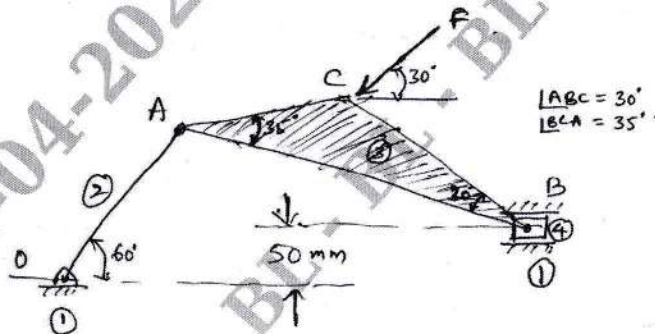

Fig. Q4 (a)
- 4 a. For the mechanism shown in Fig. Q4 (a), find the required input torque for static equilibrium. The lengths OA and AB are 250 mm and 650 mm respectively. $F = 500 \text{ N}$.